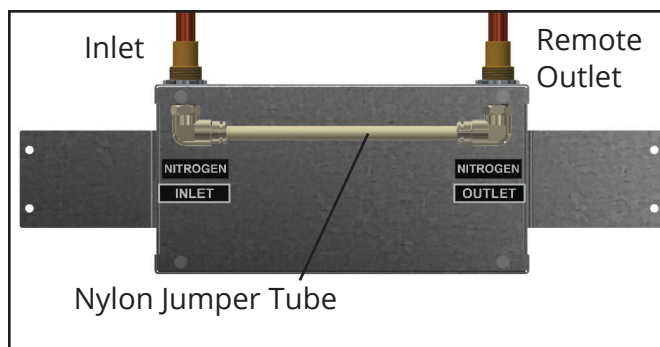

Figure 3
6. For Panels with remote outlet, install nylon jumper tube between inlet and outlet connectors (Figure 3)